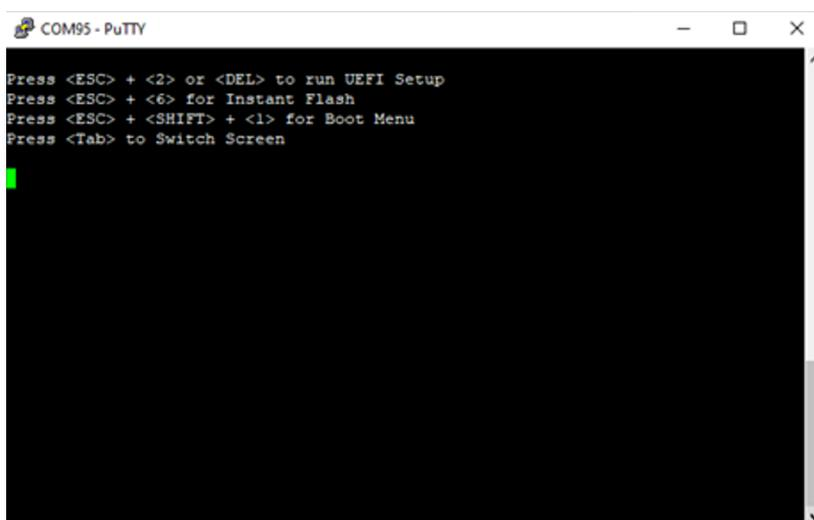

Figure 28 : Entering UEFI through COM1
- 1 COM1 is the UART port (Section 3, item 7) and it should already be connected to your Console Server device to allow for remote operation through the KVM server.
- 2 Reboot the unit and press the ESC + 2 or 'Del' to run UEFI Setup. (Figure 28)